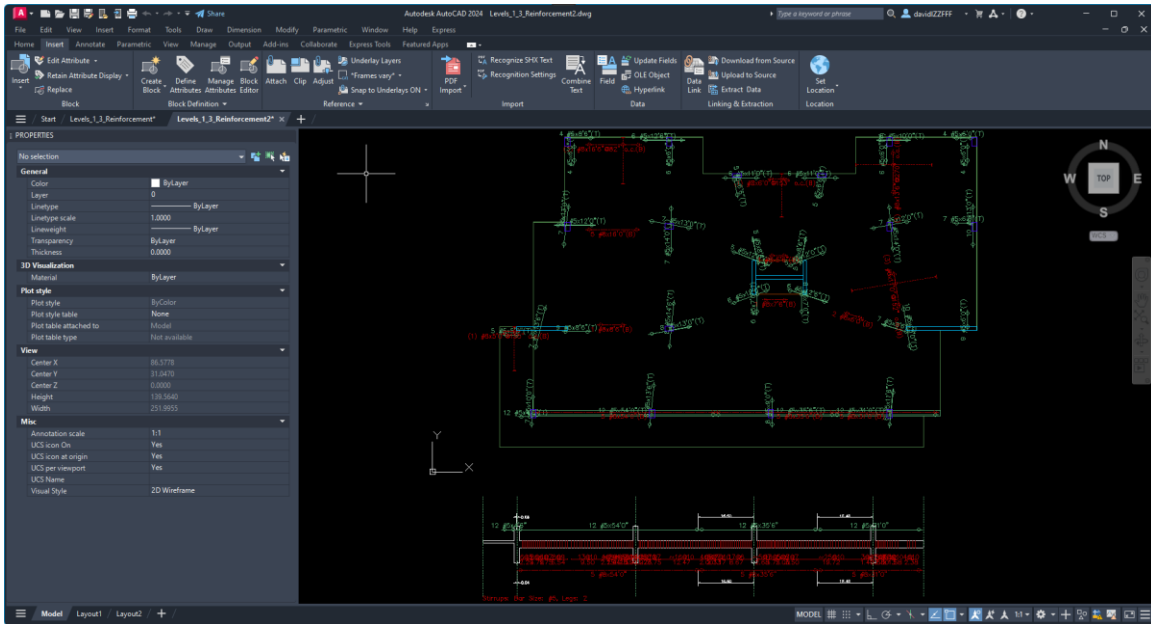

FIGURE 9-133
- Opening the drawing the user should have a CAD file that looks similar to the CAD file shown in **FIGURE 9-133**.